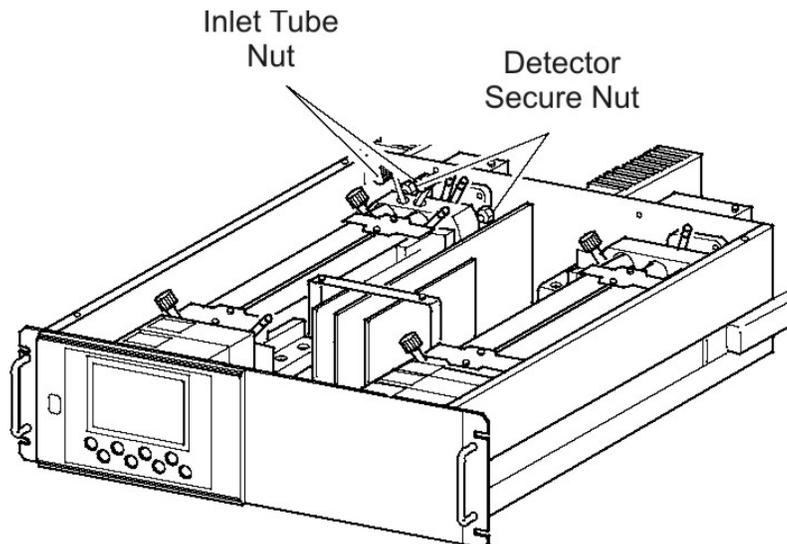

Figure 4-5: Detector Secure Nut
4. Loosen the 2 detector set bolts. See Figure 4-5.